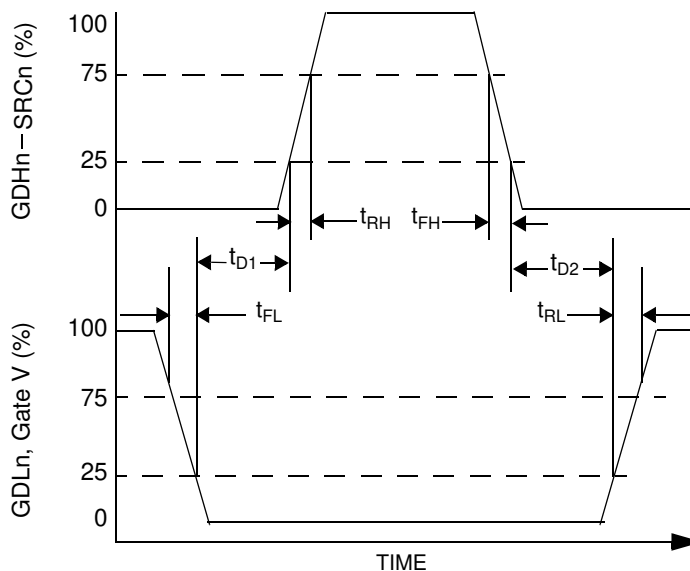

Figure 4. Shoot-Through Suppression
- See Figure 4, page 8.
The control logic block controls when the low-side and high-side drivers are enabled. The logic implements the Truth Table found in the specification and monitors the M0, M1, PWM, CL, OT, OV, LSE, and HSE pins. Note that the drivers are enabled 3 μs after the PWM edge. During complimentary chop mode the high-side and low-side drives are alternatively enabled and disabled during the PWM cycle. To prevent shoot-through current, the high-side drive turn-on is delayed by t_{D1} , and the low-side drive turn on is delayed by t_{D2} (see Figure 4, page 8).